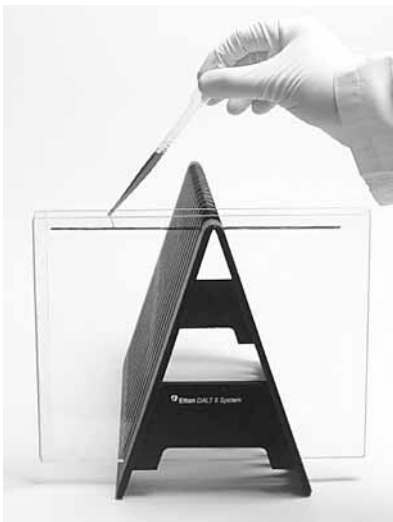

Fig 7-2. Adding agarose overlay.
- 11 Seal the IPG strip in place. For each IPG strip, melt an aliquot of agarose sealing solution in a heating block or boiling water bath. (Tip: an ideal time to carry out this step is during IPG strip equilibration). Allow the agarose to cool slightly and slowly pipette the solution across the length of the IPG strip taking care not to introduce or trap bubbles. It will flow down between the glass plate and the support film and seal the IPG strip in place (see Fig 7-2). Agarose should also be used to seal any gap between the side of the gel and a side spacer. Allow a minimum of 1 min for the agarose to cool and solidify.